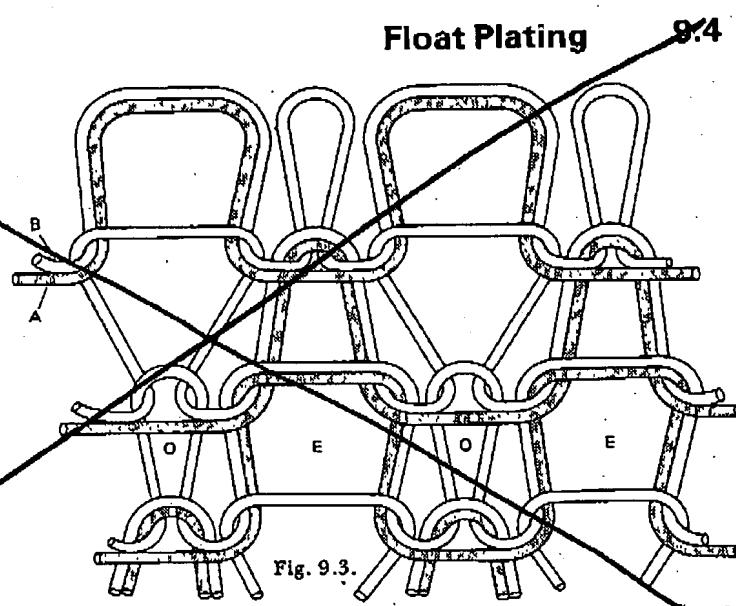

Fig. 9.3.
Float plating produces an openwork mesh structure in single jersey and involves feeding two yarns in a plating relationship to needles having forward looks (Fig. 9.3). A heavy yarn (A), for example, 30 denier, is fed at a high level and only received by needles selected to that height whereas the fine yarn (B), possibly 15 denier, is fed at a lower level and is received and knitted by every needle. Two course